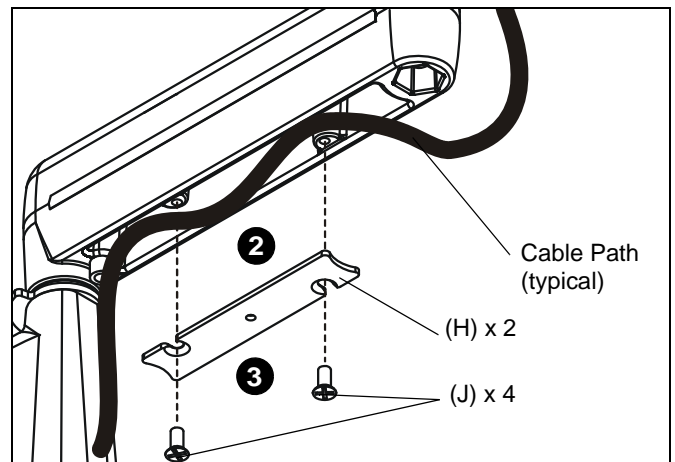

Figure 6
2. Carefully insert cables in cavity located in lower portion of mount arm (See Figure 6).
3. Using Phillips screwdriver, install cover (H) with two screws (J). (See Figure 6)